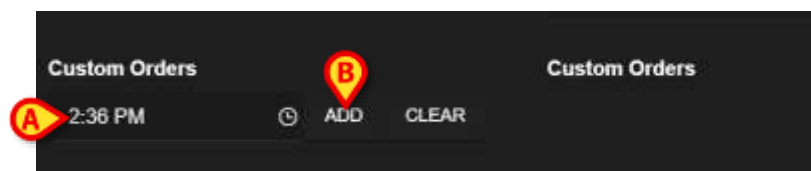

Fig 35
The selected time is displayed in the “Custom Orders” field (Fig 35 **A**).
- Click the **Add** button (Fig 35 **B**).